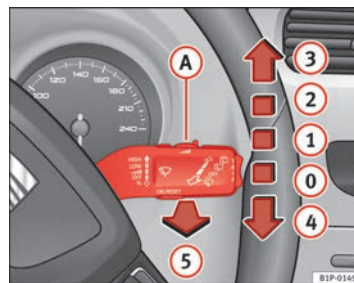

Fig. 81 Windscreen wiper and windscreen wash lever
The windscreen wiper lever ⇒ fig. 81 has the following positions:
- The next speed down will automatically be selected if wiper speed ② ⇒ fig. 81 or ③ is selected when the vehicle stops. The set speed will be resumed when the vehicle starts again.